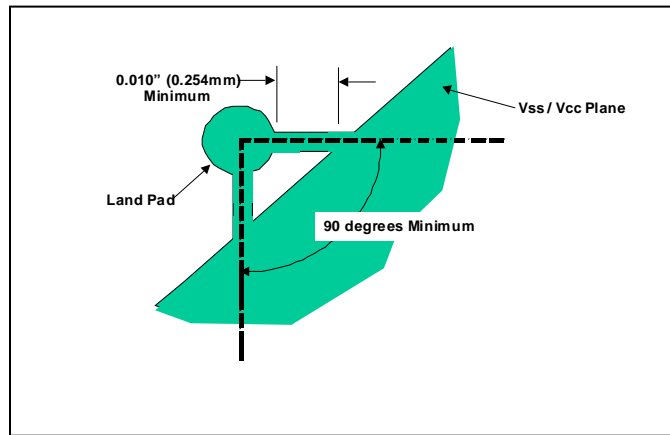

Figure 5. Land pad to Vss/ Vcc Plane
- CBGA land pads that are directly connected to a Vss or Vcc plane are to be connected with a maximum of two minimum-width traces of 0.010 inches (0.254 mm) minimum length. The two traces should be at least 90 degrees apart, see Figure 5.